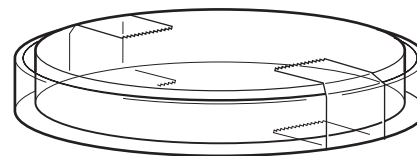

Figure 2
- 11** Cover the plate and seal using small pieces of adhesive tape, as shown in Figure 2. *Do not totally seal round the rim* as this may create anaerobic conditions and encourage the growth of harmful bacteria.